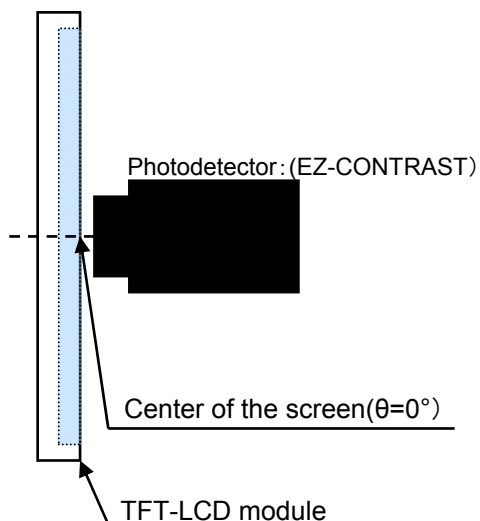

Fig.9-1 Viewing angle range measurement method
* The optical characteristics measurements are operated under a stable luminescence (I_{LED} = 20mA) and a dark condition. (Refer to Fig.9-1 and Fig.9-2)